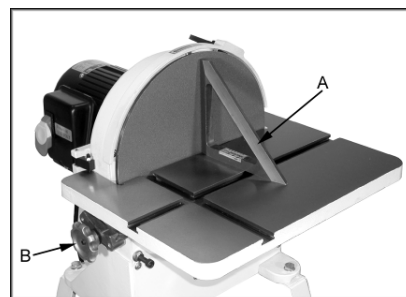

Fig 8
Use a square (A, Fig 8) on the sanding disc to exactly align the table to 90°.
Set the 90° stop screw (C, Fig 8) and lock the nut (D).